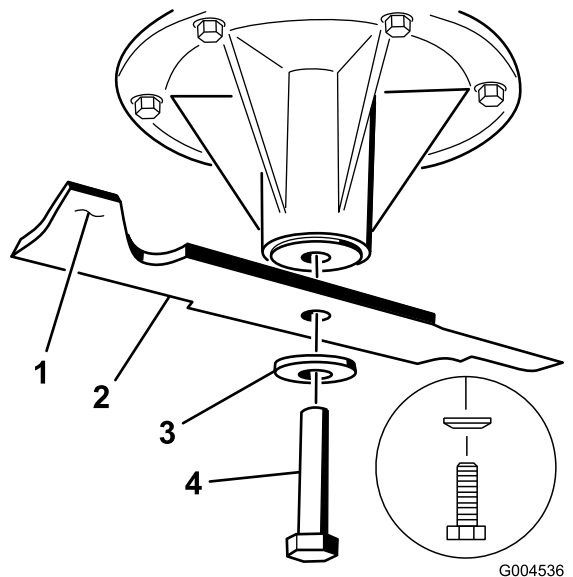

Figure 80
1. Install the blade onto the spindle shaft (Figure 80).
2. Install the spring disk and blade bolt (Figure 80).
**Note:** The spring-disk cone must be installed toward the bolt head (Figure 80).